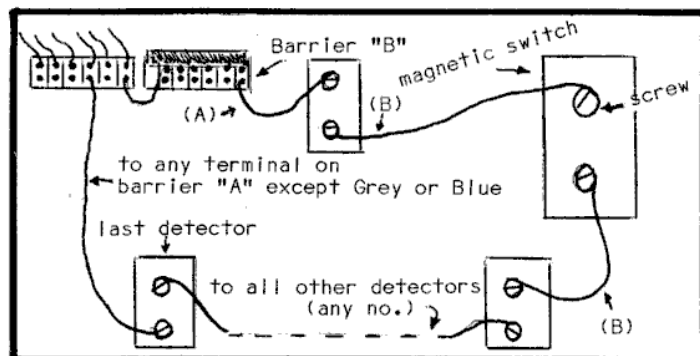

Fig. 2
You have a choice here. If you want the alarm to be able to tell you where a break-in has occurred, you will have to run double wires to every detector in the house. The simple hook-up is to just make on big closed loop alarm circuit (see Fig. 2). Then you have one wire coming off the barrier strip, connecting between every detector, and a wire coming back to the computer completing the circuit. You probably would want to do it this way, as you might not care to know exactly where a break-in is occurring...you'll be ready with your UZI.
2) Using 20 or 22 gauge stranded wire (or whatever you you prefer, single conductor, ect.), run a wire from a screw on the common barrier (connected to the GREY wire), to one terminal of whichever detector is closest to the computer (see Fig. 2, part A).
3) Now run a wire from the second terminal of the detector to a terminal on the next nearest detector. Continue stringing detectors together as in Fig. 2, part B.